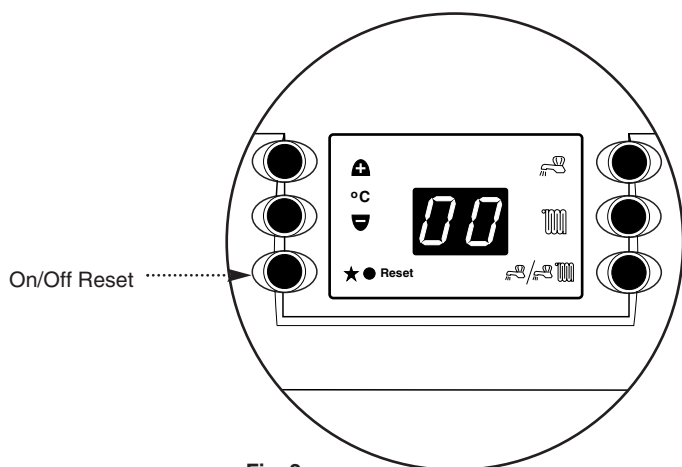

Fig. 2a
7. To turn off the boiler: Press the On/Off/Reset button (★●Reset) until 00 appears on the display (Fig. 2a). **NOTE:** This will disable boiler & system frost protection. Press again to turn back on.